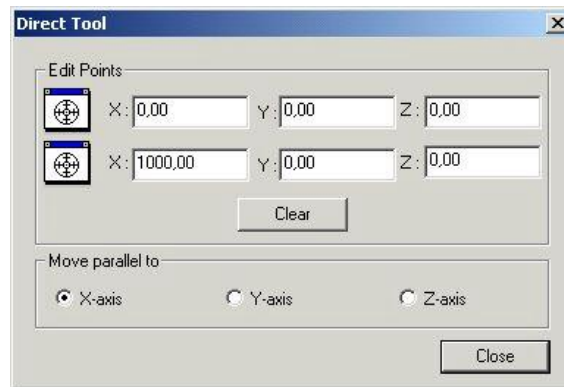

Figure 62: Direct Tool Dialog
- 1) You can move an object along the X-axis. To do this, click field next to **X-axis**. *Please refer to the Figure 62.*